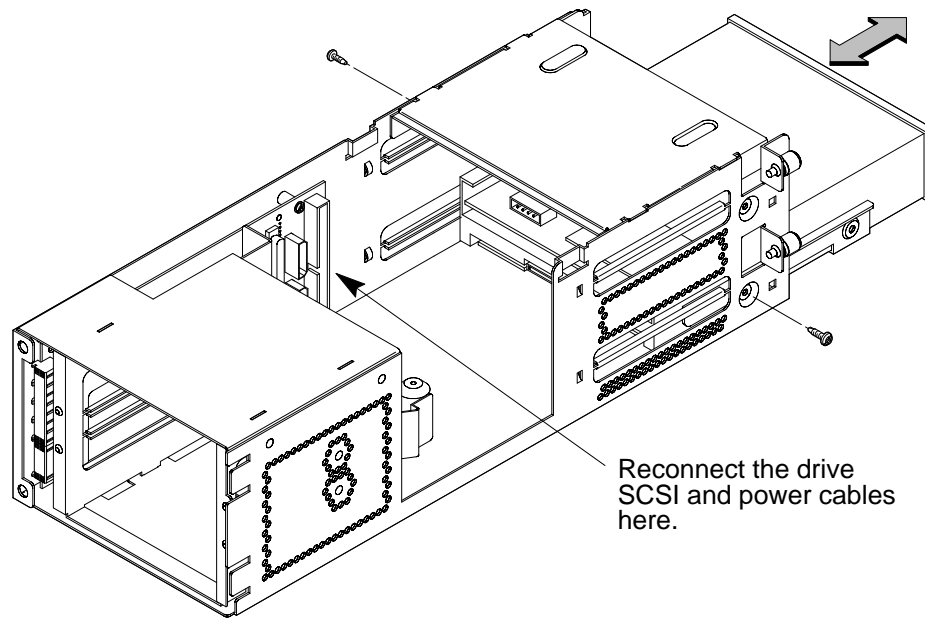

Figure A-13. Replacing Drive Screws
11. With the disk mounting bracket between the guides on each side of the Storage Assembly, slide the disk into the Storage Assembly, securing it with the two side screws. See Figure A-13. Do not over-tighten the side screws.
12. Reconnect the cabling from the back of the drive to the side of the drawer assembly. See Figure A-13.